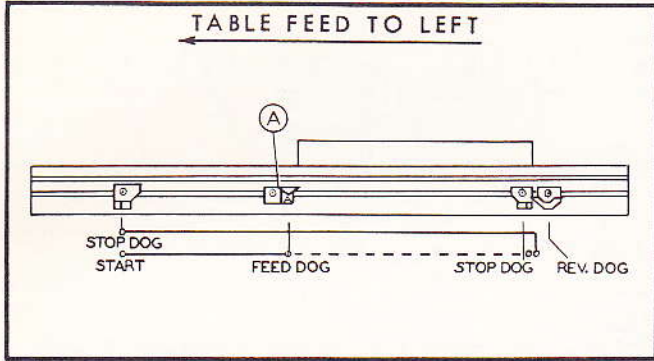

Fig. 13. Plain Cycle — Rapid Traverse Return — Right to Left
Figure 13 illustrates the position of the dogs for table travel which starts to the left. The workpiece is placed on the right end of the table and the cycle is started with the table at the right end of travel. With the selector knob (Figures 10 and 11) rotated to read **RAPID REV**, move the mono-lever to the left and then outward. The table will travel at the rapid traverse rate until the feed dog (A) contacts and depresses the trip post. This occurs just before the cutter contacts the workpiece. The mono-lever will then shift inward to the feed position and the table will feed until the reverse dog depresses the right reverse plunger to change the direction of table travel. The table will then return at the rapid traverse rate until the stop dog at the left end of the table moves the trip plunger to the neutral position and stops the table. A new workpiece is then put on the table and the cycle is repeated.